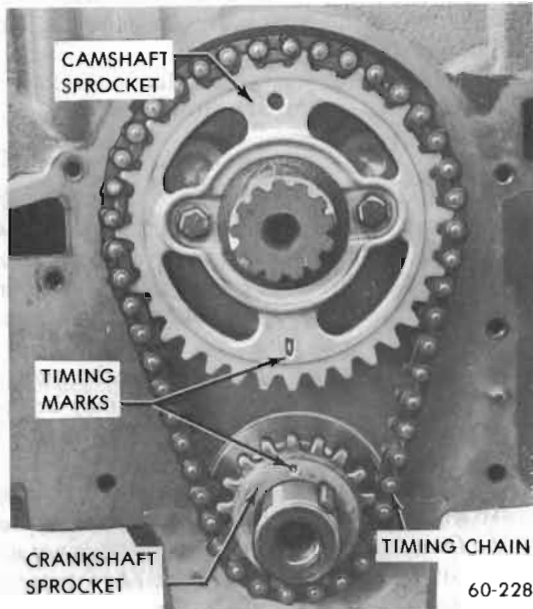

Figure 60-113 - Installation of Timing Chain and Sprocket (455 cu.in.)
end of crankshaft. Turn crankshaft so sprockets are positioned as shown in Figure 60-113. Remove crankshaft pulley bolt and washer using a sharp blow on the wrench handle, so that the bolt can be started out without changing position of sprockets.
2. Turn camshaft so with sprocket temporarily installed, timing mark is straight down. See Figure 60-113. Remove sprocket.
3. Assemble timing chain on sprockets and slide the sprocket and chain assembly on the shafts with the timing marks in their closest together position and in line with the sprocket hubs. See Figure 60-113.